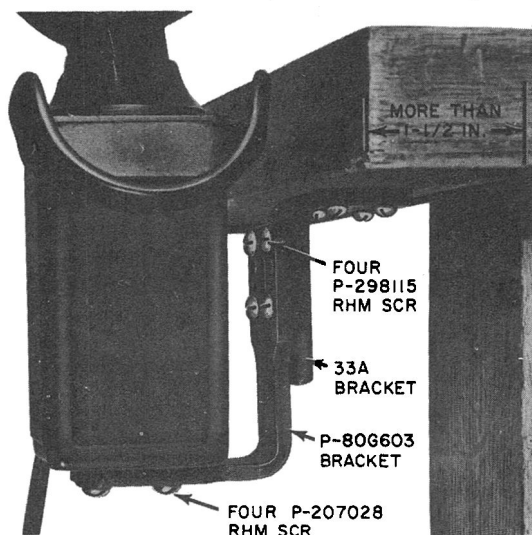

Fig. 2—Installed with 33A Auxiliary Bracket
3.05 When installing hangup-type set on desks or tables, handset should normally line up with front of desk or table. This will reduce the chance of accidentally knocking handset off the line switch. A 33A auxiliary bracket is used when a G-type mounting is attached to a desk or table where the top overhangs more than 1-1/2 inches (Fig. 2).